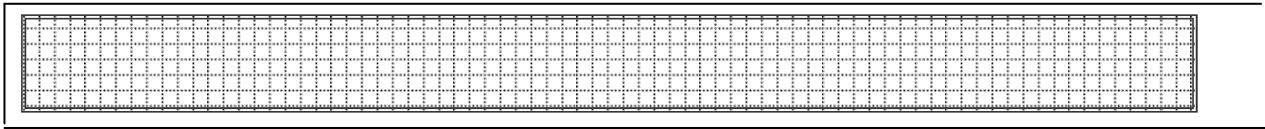

FIG. 3
- 10) WITH ONE PERSON HOLDING DOWN THE BOTTOM OF THE PANEL FIRMLY, QUIETLY ROLL BACK THE TOP OF THE PANEL AND PEEL OFF THE 300mm STRIP OF PVC BACKING FILM (FIG.3)